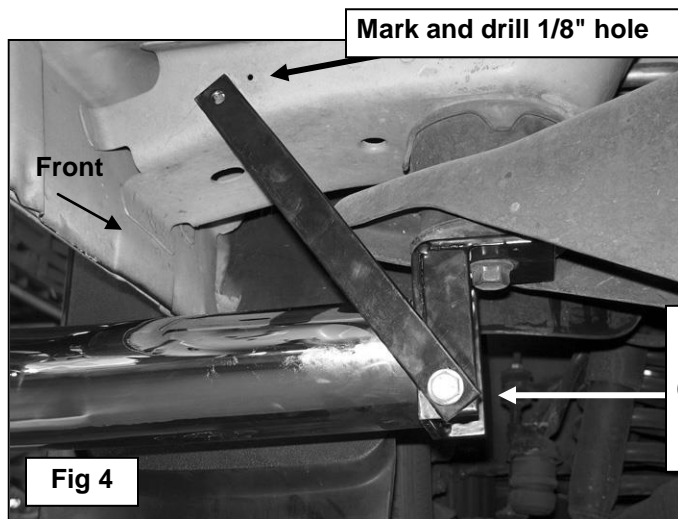

Fig 4
7. Select (1) short Front Support Bracket, **(Figure 3A)**. Insert (1) 10mm x 35mm Hex Bolt with (1) 10mm Flat Washer through the larger hole in the Support Bracket. Slide (1) Square Spacer onto the Hex Bolt, **(Figure 3B)**. Secure the Bracket with Spacer to the rear facing side of the front Mounting Bracket with (1) 10mm Flat Washer, (1) 10mm Lock Washer and (1) 10mm Hex Nut, **(Figure 4)**. **IMPORTANT:** Spacers have been provided to space the Support Bracket away from the Sidebar tube, **(Figure 3B)**. Insert the Spacer between the Support Bracket and the Mounting Bracket. The Spacer is designed to push the Support Bracket out to clear the Sidebar tube to prevent rubbing. Use as necessary.
8. Extend the Support Bracket upwards to the body channel. Use the hole in the Support Bracket as a template to mark the drilling location on the body channel, **(Figure 4)**.
9. Once you have marked the location, move the Support Bracket out of the way. Drill a 1/8" pilot hole in the marked location, **(Figure 4)**. The pilot hole is only recommended but not required for the self-drilling Sheet Metal Screws. **IMPORTANT!** Any cutting or drilling tool may break or shatter. Government regulations require safety glasses & equipment at all times when cutting or drilling.